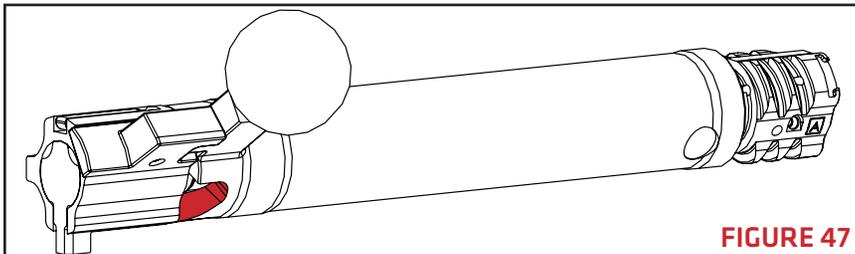

FIGURE 47
6. Lightly lubricate the cam slot on the bolt tube (FIGURE 47).